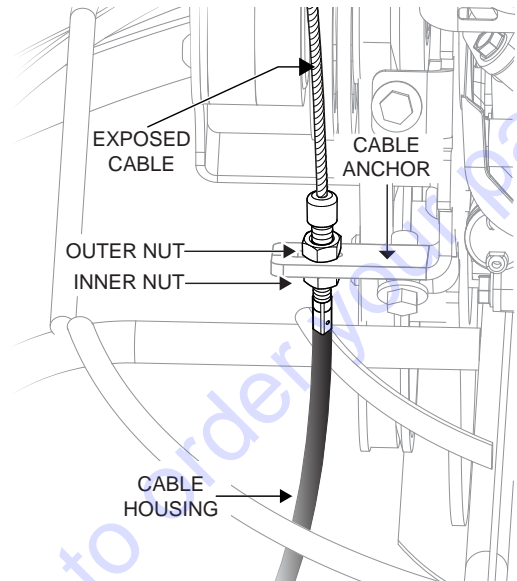

Figure 19. Attaching Clutch Cable To Cable Anchor
- Place outer nut (Figure 19) onto the threaded end of the clutch cable. Hand tighten nut against the cable anchor.